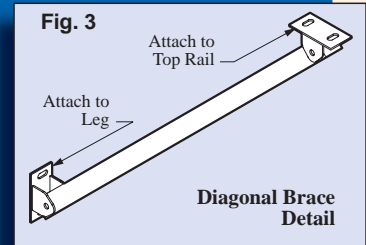

Fig. 3
To insure stability during a move, Caster Option 1 includes up to (8) Diagonal braces (Fig. 3). Cleanrooms with 1-4 sides consisting of all strips utilize two (2) Diagonal braces per side as shown on Fig. 1. Diagonal braces can also be used on sides with solid curtains.